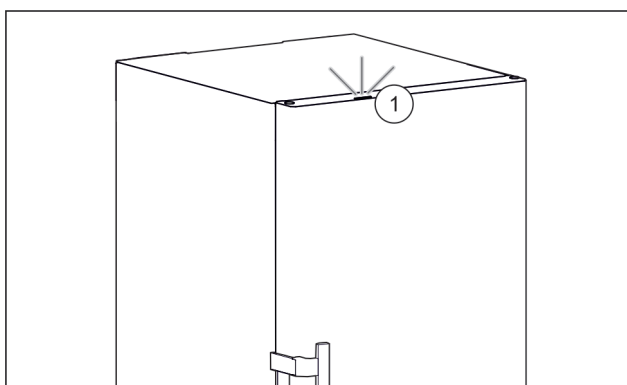

Fig. 41 Active status light when the door is closed
- Status light Fig. 41 (1) is activated.